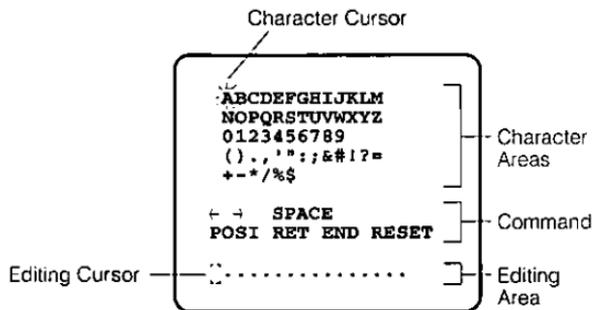

Fig. 23
- Move the cursor to the "CAMERA ID" mode position and press the Set Switch (9) to display the Character Editing menu as shown in Fig. 23.
2. The camera ID moves faster when the Up Switch (Λ) (8), Down Switch (γ) (5), Left Switch (<) (7) or Right Switch (>) (6) is kept pressed for more than 0.5 seconds.
- After completing the positioning of the camera ID, press the Set Switch (9) to return to the Character Editing menu as shown in Fig. 23.
- To return to the normal camera picture mode, move the character cursor to the "END" position and press the Set Switch (9).
- To return to the Setup menu for setting other items, move the character cursor to the "RET" position and press the Set Switch (9).